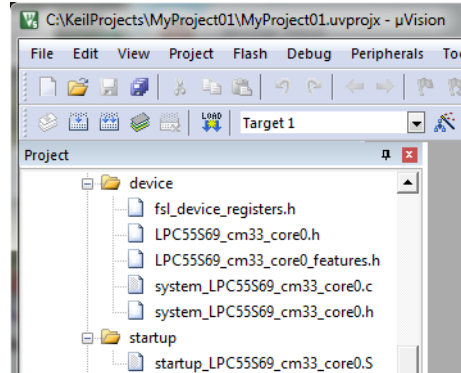

Figure 1-18. Project
10. Click OK, and a new project is created. The new project is now visible in the left-hand part of Keil μ Vision. See Figure 1-18.
13. Select Use Single Precision in the Floating Point Hardware option. See Figure 1-18.